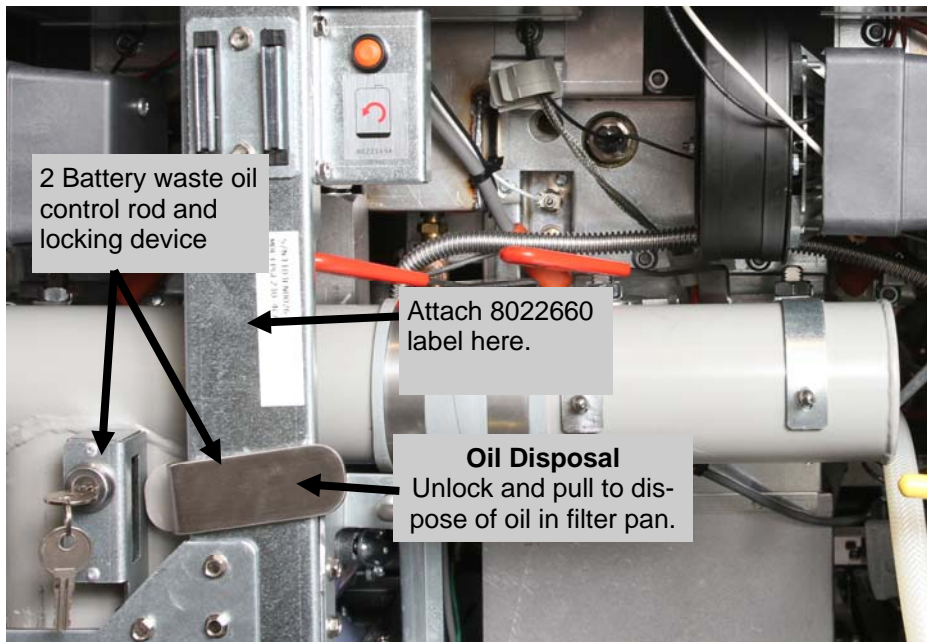

Figure 11: The 2 battery assembly dispose waste handle shown in place.
11. Route the plumbing assembly control arm through the fryer from the front to the activation arm on the assembly. The control arm slides through the upright cabinet support on two battery systems. **See figure 11.**